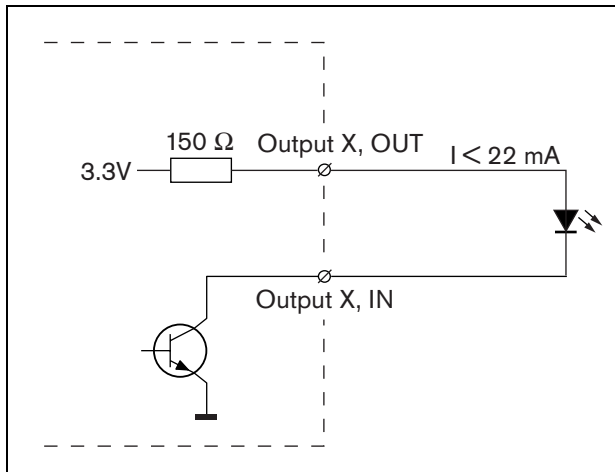

figure 16.4: Internally powered LED
- Internally powered lamp or LED. See figure 16.4 for a connection diagram.